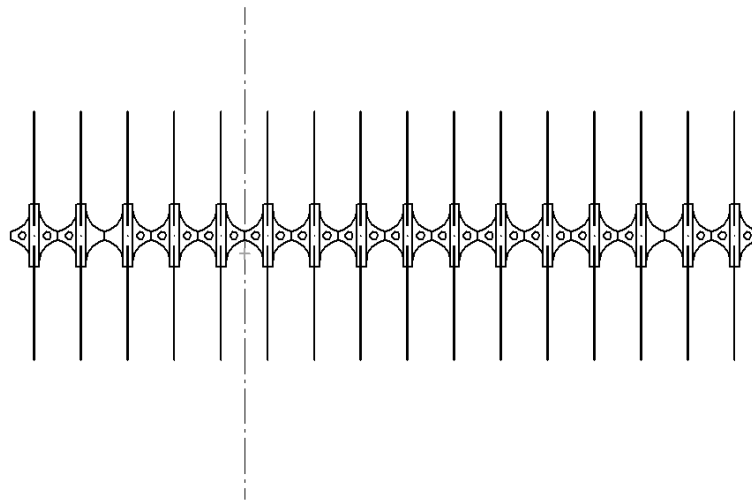

Figure 2 Bird Spike Trimming Location (FOR VAS ONLY)
**\*\*PLEASE NOTE:** For VAS Fixtures only, trim the Bird Spike as shown in Figure 2 before installation. **DO NOT** trim the Bird Spike when installing a VAM fixture.
1. If necessary, trim the Bird Spike (E) with hacksaw (see note above).
2. Attach the Larger Bracket (A) and Smaller Bracket (B) as shown to the Fixture (C) using the provided Screws (D). Ensure that the PEMs are facing upwards as shown above and Screws (D) are fully engaged.
3. Align the bird spikes (E) onto the eight PEMs of both Brackets (A&B) as shown. Use the Locknuts (F) to secure the bird spikes (E) to both Brackets (A&B)
4. Inspect the fixture to make sure that all the Screws (D) and locknuts (F) are fully tightened. Ensure that the bird spikes brackets are rigid (A, B, E).